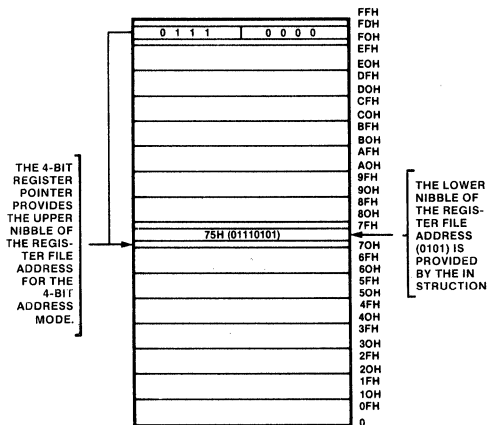

Figure 6. Register Pointer Mechanism
UPC instructions may access registers directly or indirectly using an 8-bit address mode or a 4-bit address mode and a Register Pointer. For the 4-bit addressing mode, the file is divided into 16 working register groups, each occupying 16 contiguous locations (Figure 6). The Register Pointer (RP) addresses the starting point of the active working-register group, and the 4-bit register designator supplied by the instruction specifies the register within the group. Any instruction altering the contents of the register file can also alter the Register Pointer. The UPC instruction set has a special Set Register Pointer (SRP) instruction for initializing or altering the pointer contents.